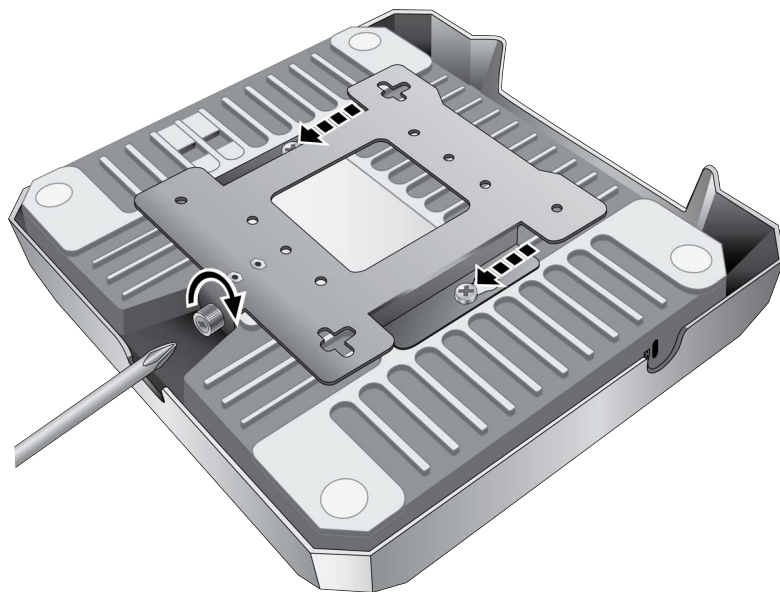

Figure 24. Tightening the Mounting Bracket Thumbscrew
3. Tighten the thumbscrew to secure the access point to the mounting bracket. Refer to Figure 24.